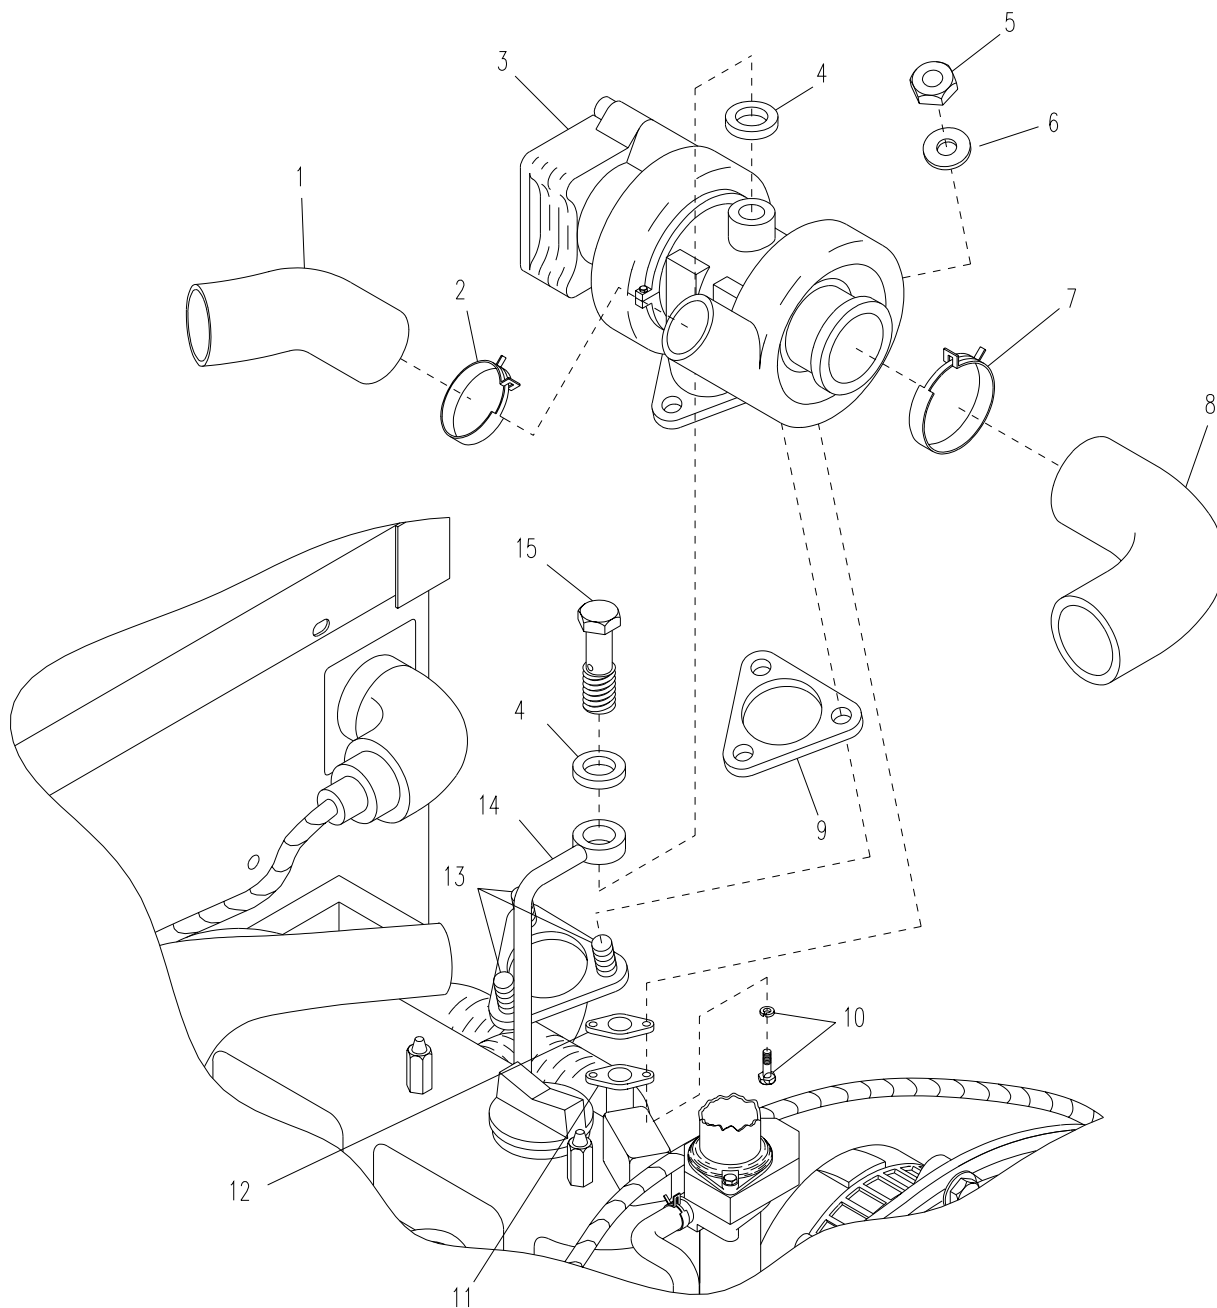

Figure 4-32. Engine Turbocharger
- a. Loosen clamp (7, Figure 4-32) and remove air intake elbow (8).
- b. Loosen clamp (2) and remove manifold intake hose (1).
- c. Remove banjo bolt (15) and two sealing washers (4) from oil pressure line (14).
- d. Remove two bolts and lock washers (10), oil drain hose (11), and oil gasket (12). Discard gasket (12).
- e. Remove three nuts (5) and sealing washers (6).
- f. Remove turbocharger (3) and gasket (9) from exhaust manifold mounting studs (13). Discard turbocharger (3) and gasket (9).
- g. Install new turbocharger (3) and gasket (9) on exhaust manifold mounting studs (13).
- h. Install three nuts (5) and sealing washers (6) and torque to 30 ft-lbs.
- i. Install oil drain hose (11) and new oil gasket (12) and secure with two bolts and lock washers (10).
- j. Install sealing washers (4) and banjo bolt (15) through hole in oil pressure line (14) into turbocharger (3).
- k. Install manifold intake hose (1) and secure with clamp (2).